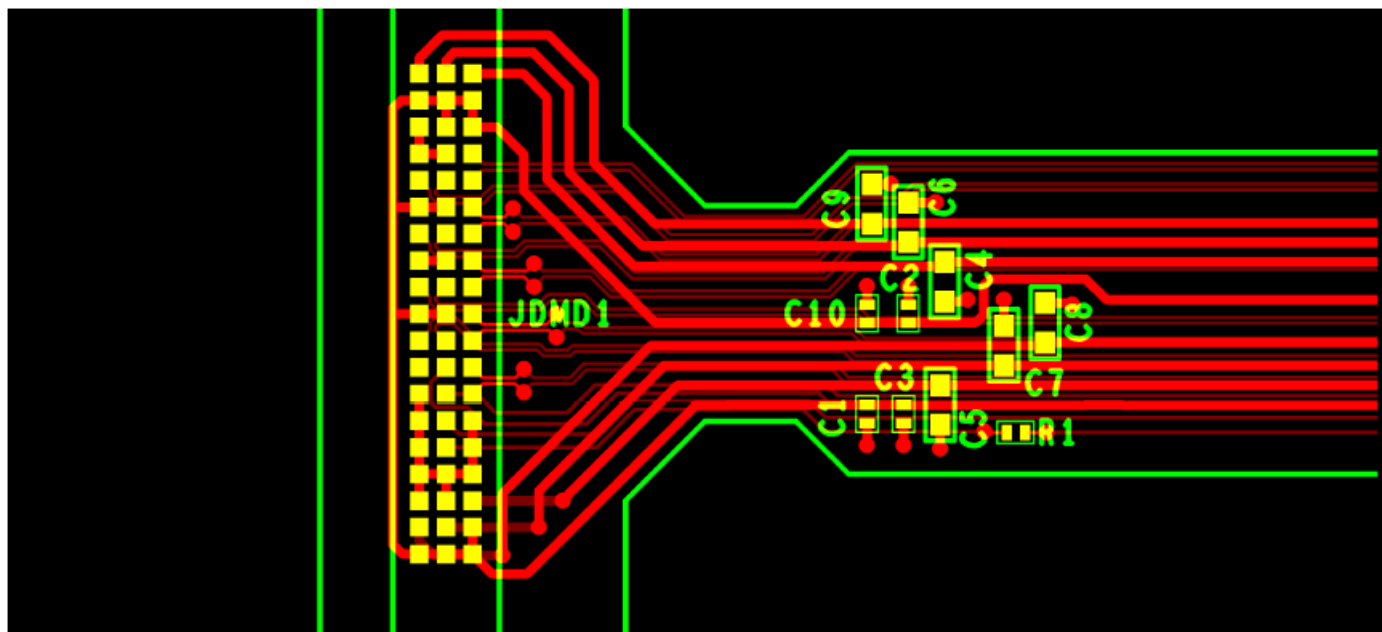

Figure 10-1. Power Supply Connections
- Minimize vias, layer changes, and turns for the HS bus signals. Refer Figure 10-1.
- Minimum of two 100-nF decoupling capacitor close to VBIAS. Capacitor C6 and C7 in Figure 10-1.
- Minimum of two 100-nF decoupling capacitor close to VRST. Capacitor C9 and C8 in Figure 10-1.
- Minimum of two 220-nF decoupling capacitor close to VOFS. Capacitor C5 and C4 in Figure 10-1.
- Minimum of four 100-nF decoupling capacitor close to VDDI and VDD. Capacitor C1, C2, C3 and C10 in Figure 10-1.